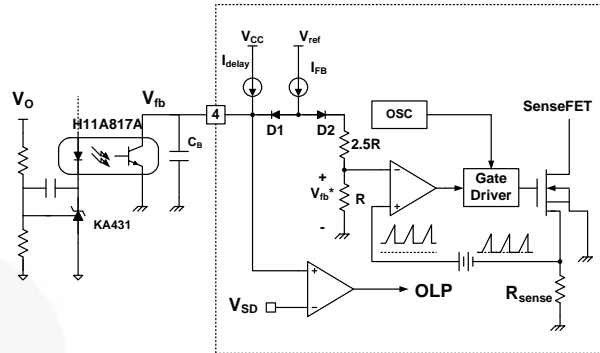

Figure 32. Pulse Width Modulation (PWM) Circuit
3. Feedback Control: The FSCQ series employs current mode control, as shown in Figure 32. An optocoupler (such as Fairchild’s H11A817A) and shunt regulator (such as Fairchild’s KA431) are typically used to implement the feedback network. Comparing the feedback voltage with the voltage across the R_{sense} resistor, plus an offset voltage, makes it possible to control the switching duty cycle. When the reference pin voltage of the shunt regulator exceeds the internal reference voltage of 2.5 V, the opto-coupler LED current increases, pulling down the feedback voltage and reducing the duty cycle. This typically occurs when input voltage is increased or output load is decreased.
3.1 Pulse-by-Pulse Current Limit: Because current mode control is employed, the peak current through the SenseFET is limited by the inverting input of the PWM comparator (V_{fb}^*) as shown in Figure 32. The feedback current (I_{FB}) and internal resistors are designed so that the maximum cathode voltage of diode D_2 is about 2.8 V, which occurs when all IFB flows through the internal resistors. Since D_1 is blocked when the feedback voltage (V_{fb}) exceeds 2.8 V, the maximum voltage of the cathode of D_2 is clamped at this voltage, thus clamping V_{fb}^* . Therefore, the peak value of the current through the SenseFET is limited.